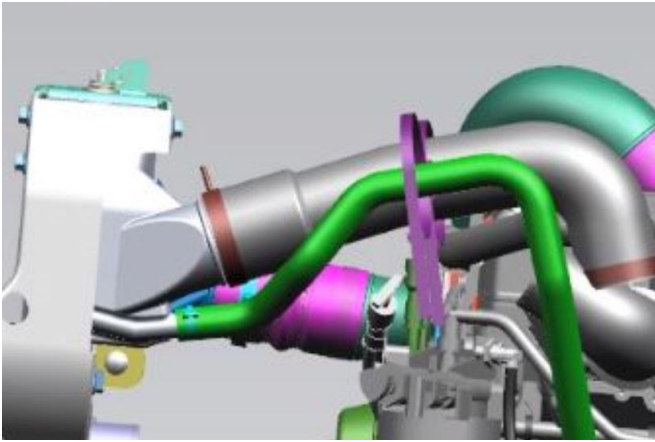

Figure 2: Side View- CAC pipe saddle & tie strap centered
- 2. Air Compressor Intake Hose clipping point to the saddle tie strapped on the CAC pipe shall be centered vertically on the CAC pipe and securely fastened with a tie strap (Figure 2)